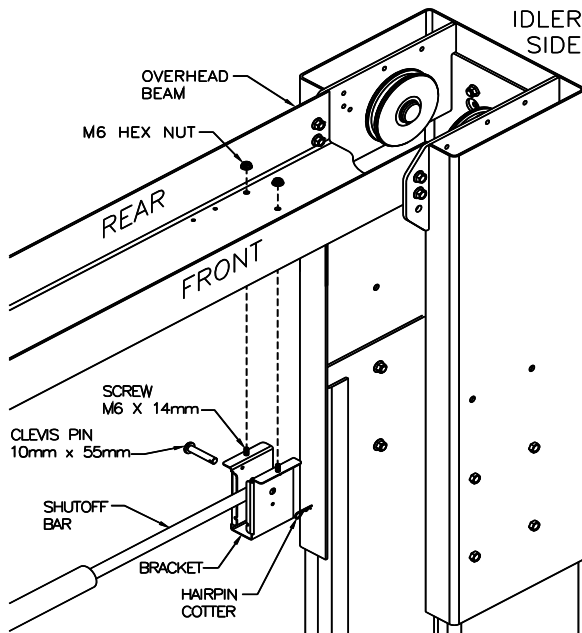

Fig. 10 – Overhead Bracket Idler Side
- 30) Repeat for Idler Side – Attach the Idler Bracket to the rear set of holes on the Idler Side of the Overhead Beam using the hardware already attached to the bracket, **Fig. 10**. **Note the orientation of the Idler Bracket. The narrow slot needs to be facing towards the Power Column.**